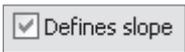

Figure 4.69
8. You've just created a boundary for a flat roof. However, you want the roof to have a slight slope, creating a gently sloping shed. Select the bottom horizontal boundary line. In the Options bar is a toggle for setting lines to define slope: toggle it. An icon appears beside the sketch line indicating that it's slope-defining. Select the line and change the slope value from 9 1/2" to 1" (Figure 4.69). Finish the roof using the Finish Roof button at the far-right side of the Ribbon. If you get an error that you have overlapping lines, check where Revit indicates the problem and clean up the lines.